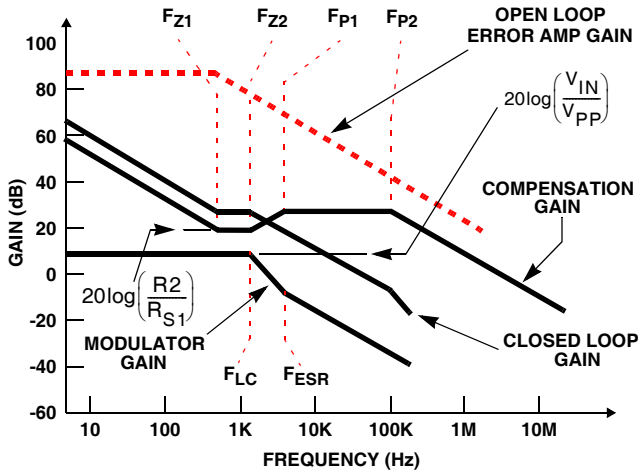

FIGURE 6. ASYMPTOTIC BODE PLOT OF CONVERTER GAIN
The compensation network consists of the error amplifier (internal to the ISL6432) and the impedance networks  $Z_{IN}$  and  $Z_{FB}$ . The goal of the compensation network is to provide a closed loop transfer function with high 0dB crossing frequency ( $f_{0dB}$ ) and adequate phase margin. Phase margin is the difference between the closed loop phase at  $f_{0dB}$  and 180 degrees. The equations below relate the compensation network’s poles, zeros and gain to the components ( $R1$ ,  $R2$ ,  $R3$ ,  $C1$ ,  $C2$ , and  $C3$ ) in Figure 6. Use these guidelines for locating the poles and zeros of the compensation network:
Figure 6 shows an asymptotic plot of the DC-DC converter’s gain vs. frequency. The actual Modulator Gain has a high gain peak dependent on the quality factor (Q) of the output filter, which is not shown in Figure 6. Using the above guidelines should yield a Compensation Gain similar to the curve plotted. The open loop error amplifier gain bounds the compensation gain. Check the compensation gain at  $F_{P2}$  with the capabilities of the error amplifier. The Closed Loop Gain is constructed on the log-log graph of Figure 10 by adding the Modulator Gain (in dB) to the Compensation Gain (in dB). This is equivalent to multiplying the modulator transfer function to the compensation transfer function and plotting the gain.